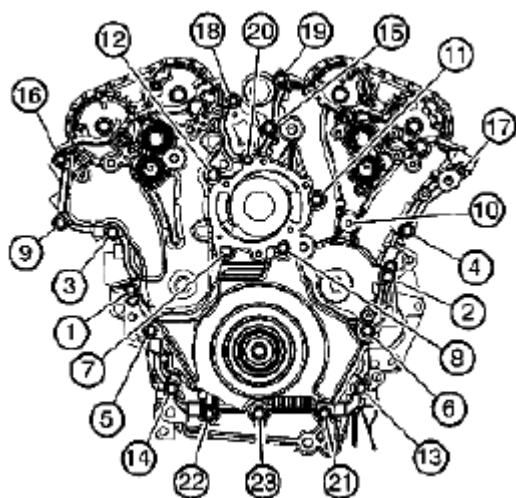

Fig. 946: Tightening Engine Front Cover Bolts
9. Tighten the engine front cover bolts in the sequence shown in **Fig. 946** (1-22).